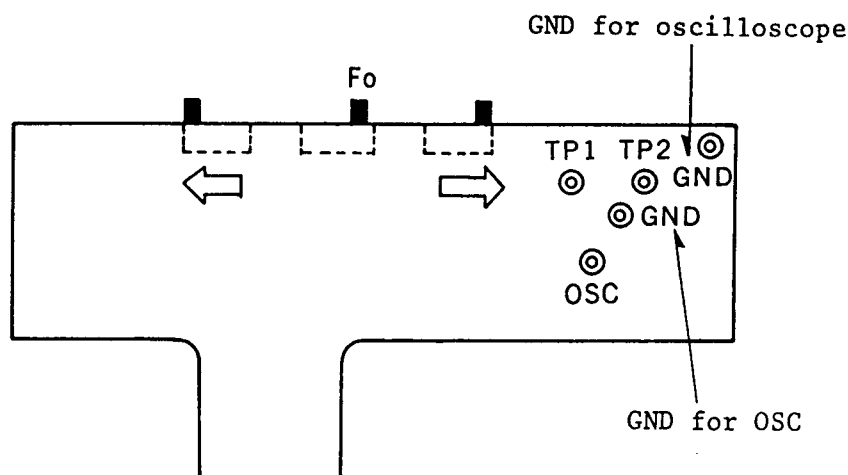

Fig. 2-7
- ① Set the switches of the PCB connection cord as illustrated in Fig. 2-7.